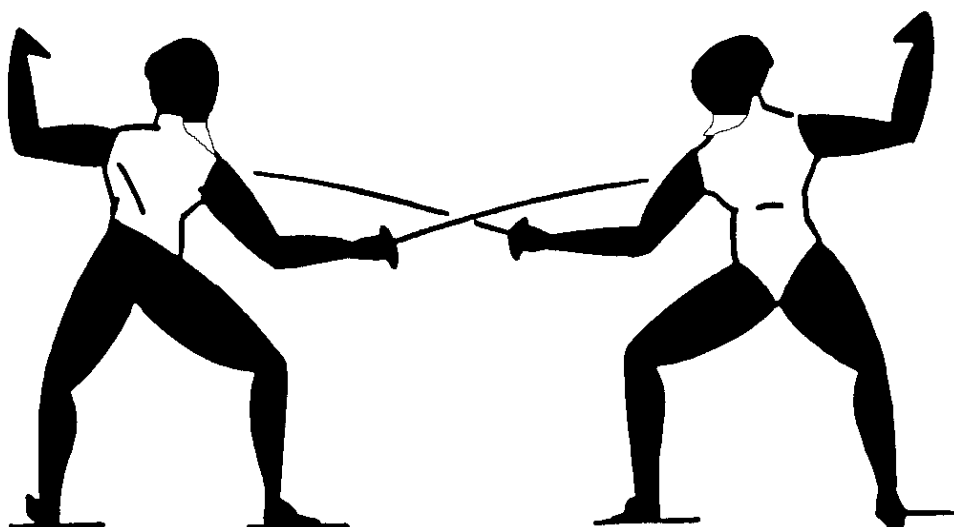

Figure 4. Valid target at foil (bib only from JAN 2009)
t.47.2. The target at foil excludes the limbs and the head. It is confined to the trunk, the upper limit being the collar up to 6 cm above the prominences of the collar bones; at the sides to the seams of the sleeves, which should cross the head and the humerus; and the lower limit following a horizontal line across the back joining the tops of the hip bones, thence by straight lines to the junction of the lines of the groin. (FROM JAN.2009 It also includes the part of the bib beneath a horizontal line 1,5 to 2 cm below the chin and which, in any case, may not be lower than the line of the shoulders ) (see Figure 4)